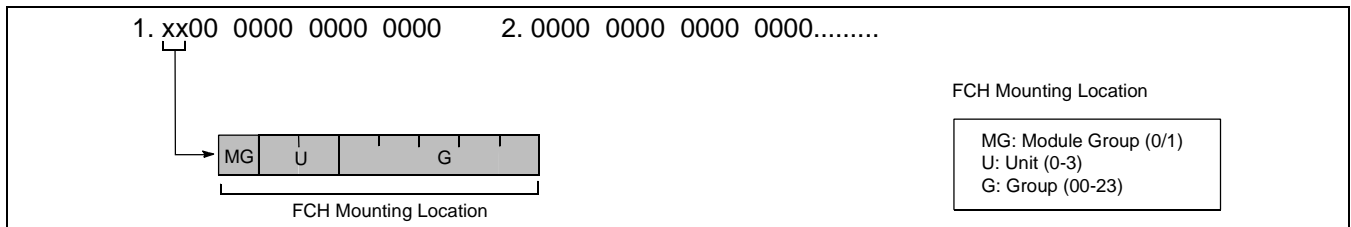

Figure 7-2 3-B PM C-level Infinite Loop (Permanent)
This message is displayed when a C-level program abnormal state has been detected as permanent. When the abnormal state is detected by the Port Microprocessor (PM) on an FCH card, the PM places the card into make-busy status. If the failure occurs more than 15 times an hour, the system judges the failure as permanent, issuing 3-B system message. Refer to Figure 7-2.